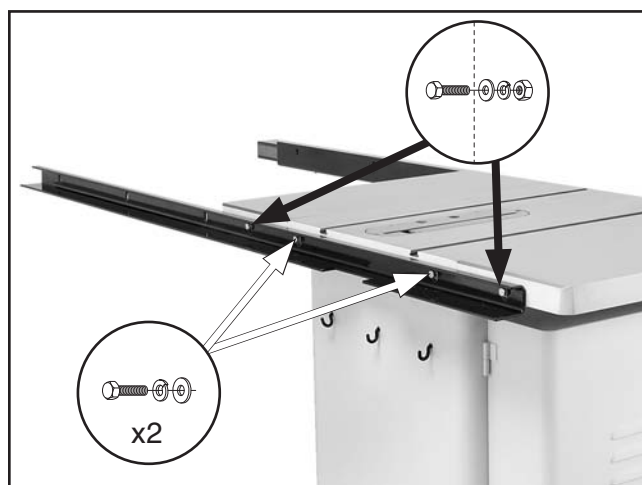

Figure 22. Rear rail installed (Model G0691 shown).
12. Attach the rear rail to the holes on the main table using two $\frac{5}{16}$ "-18 x 1" hex bolts, 8mm lock washers and 8mm flat washers, as shown in **Figure 22**.